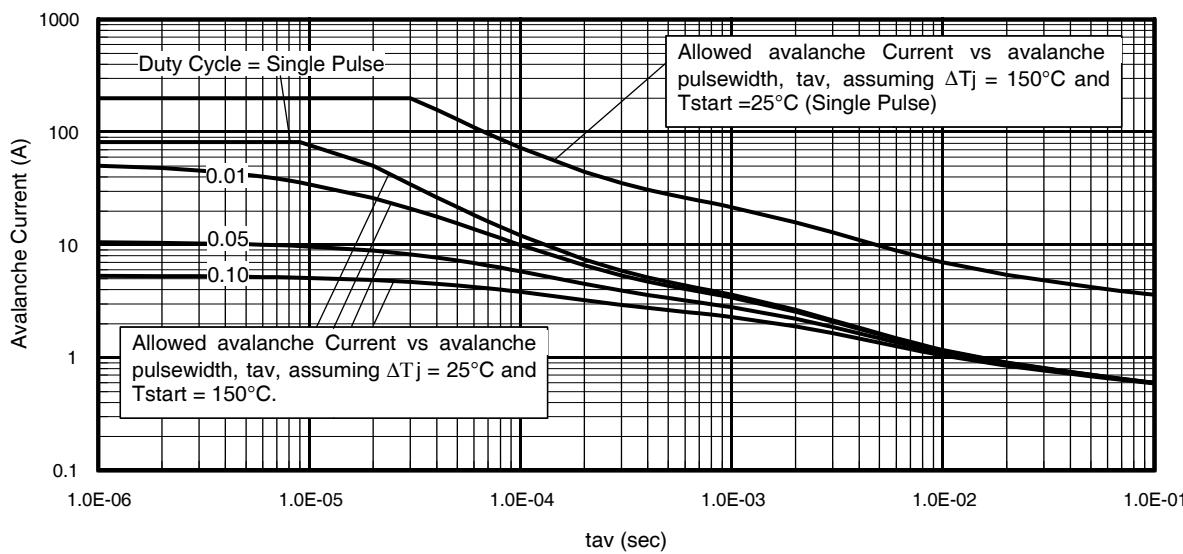

Fig 15. Typical Avalanche Current Vs. Pulsewidth
Notes on Repetitive Avalanche Curves , Figures 15, 16:
7.  $\Delta T$  = Allowable rise in junction temperature, not to exceed  $T_{jmax}$  (assumed as  $25^\circ\text{C}$  in Figure 15, 16).